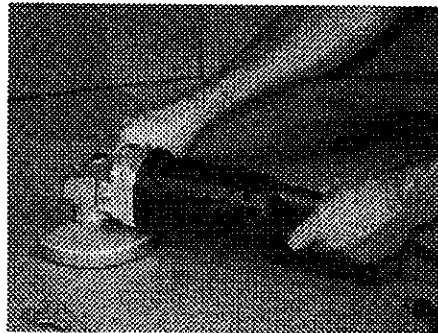

Fig. 1: Using both Handles
4. Secure the material being cut. Hold the Handle with one hand, and the Back Handle [44] with the other, and press down on the Switch [38] (See Fig. 1 on Page 8). This will start the motor. Allow the motor to reach its full speed before grinding. Make sure the Wheel is rotating evenly and all parts appear to be working properly.